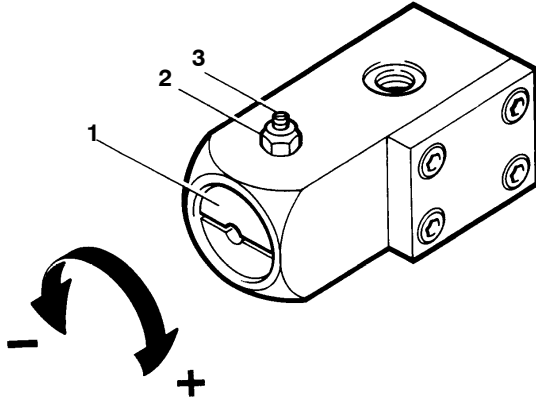

Fig. 31 Pressure maintaining valve
The pressure maintaining valve (Fig. 31) is adjusted at the factory to the required pressure and normally does not require regular maintenance or readjustment. In case of readjustment becoming necessary, loosen jam nut (2) and set screw (3). Adjust screw (1) to the required pressure using a suitable screw-driver.